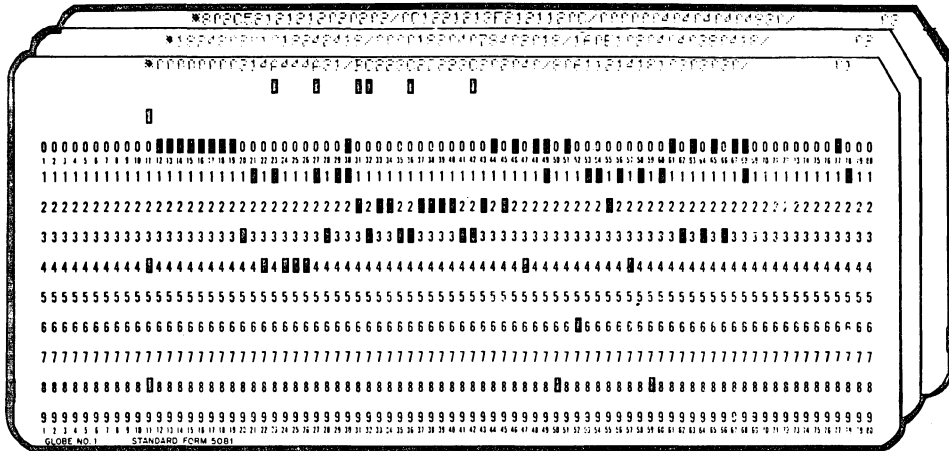

FIGURE 5 — PAPER TAPE FORMAT
2. Hexadecimal coding using ASCII Paper Tape Punch (Figure 5)
4. Transfer the hexadecimal figures either to punched cards (Figure 3) or to paper tape (Figure 5).